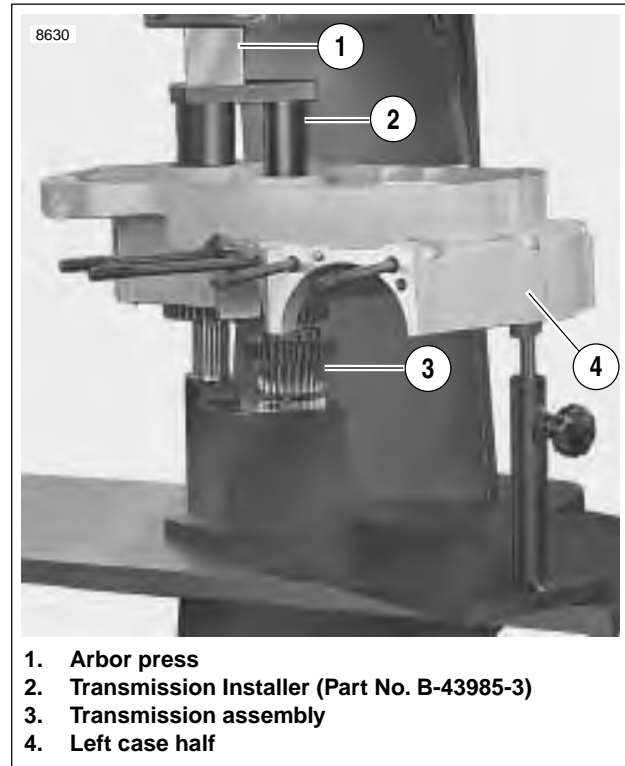

Figure 6-80. Installing Transmission in Left Case Half
3. See Figure 6-80. Place left case half over transmission assembly and install TRANSMISSION INSTALLER (Part No. B-43985-3) into crankcase.
4. See Figure 6-80. Press crankcase onto transmission assembly into until it bottoms out.